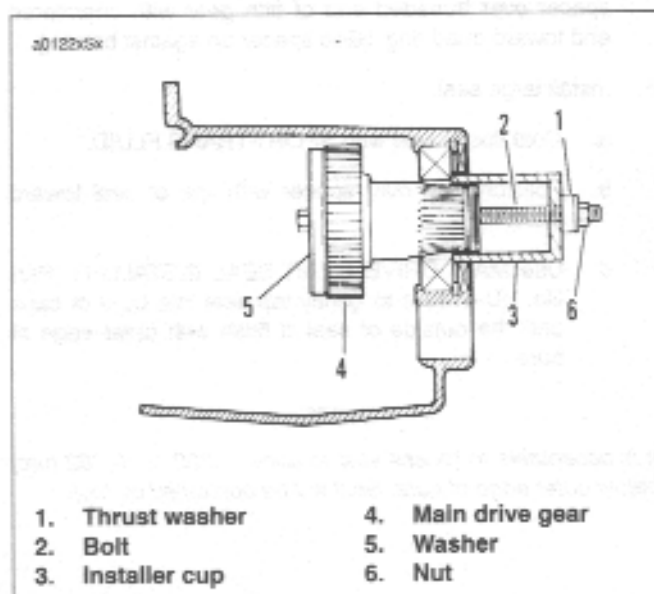
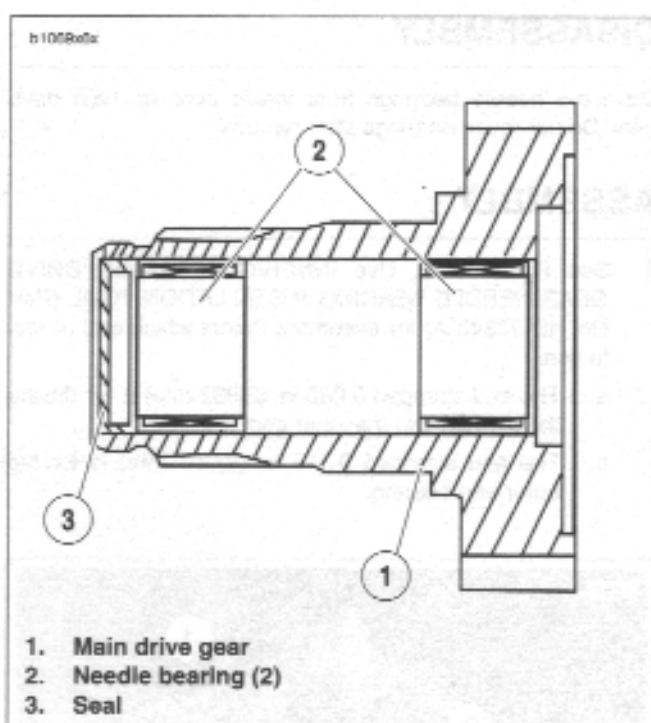

Figure 6-67. Main Drive Gear Installation
Figure 6-68. Main Drive Gear Assembly
2. See Figure 6-67. Use MAIN DRIVE GEAR REMOVER AND INSTALLER (Part No. HD-35316-A) for assembly.
- a. Take bolt (2) and place washer (5) followed by main drive gear (4) over end of bolt.
- c. Insert threaded end of bolt (2) through installer cup (3) and thrust washer (1).
- d. Thread nut (6) onto end of bolt (2). Tighten nut (6) until shoulder on gear (4) bottoms against inner race of bearing.
3. See Figure 6-68. Tap in **new** seal (3) at threaded end of 5th gear to a depth of 0.060-0.030 in. (1.524-0.762 mm).